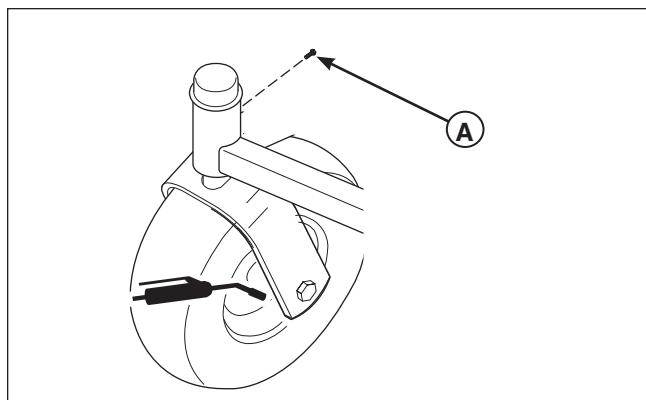

Figure 24. Front Caster & Wheel
1. Remove the 1/4-28 bolt (A, Figure 24) screwed into the front caster and install a 1/4-28 grease fitting.